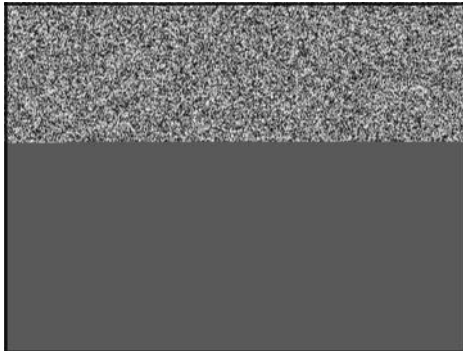

Figure 19
1. Insert RED test lead (**A**, Figure 19) into the V Ω receptacle in the meter.